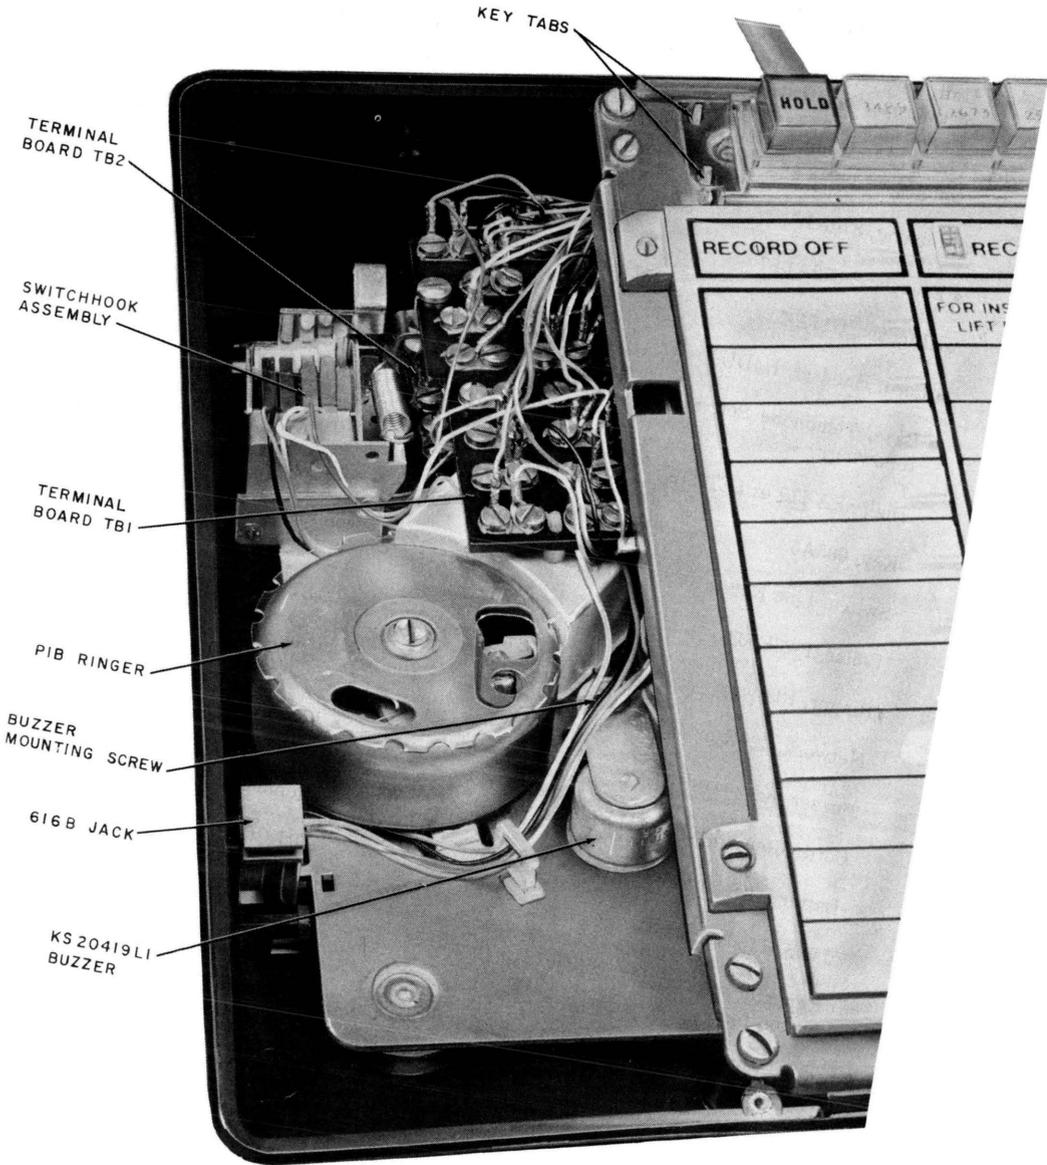

Fig. 3—872A1M Telephone Set With Faceplate, Handset, and Handset Cradle Removed
- (a) Under the handset cradle (Fig. 3):